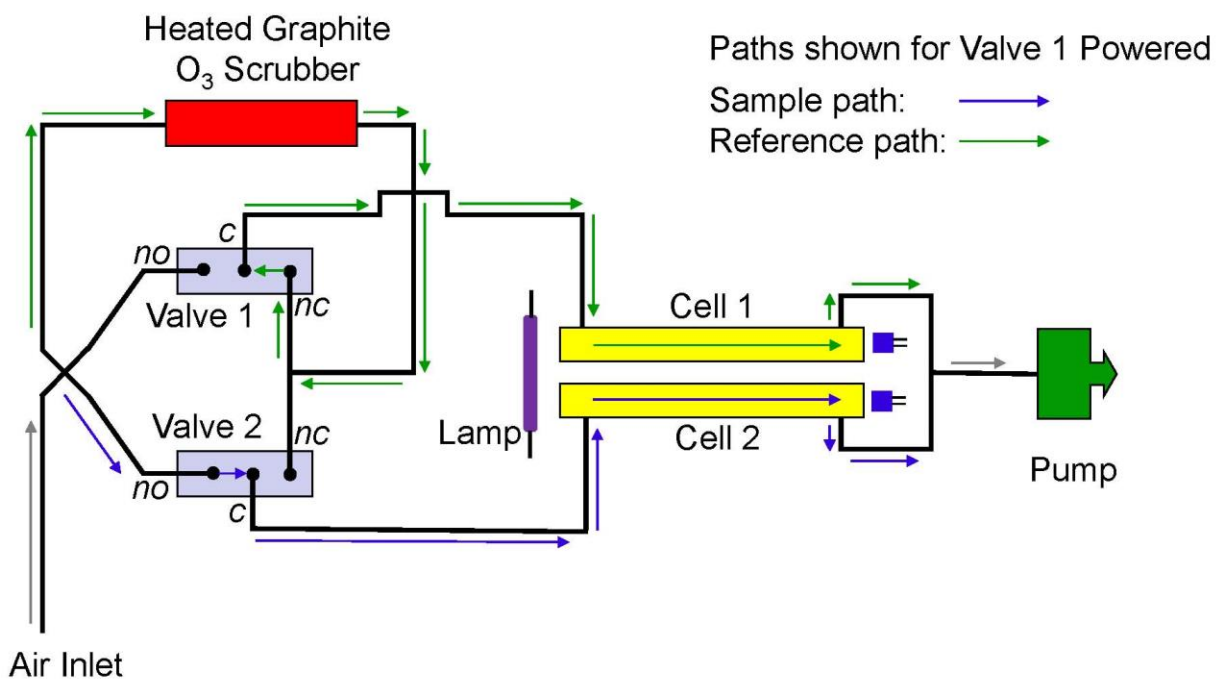

Fig. 1.1. Schematic diagram of the Model 211-G Ozone Monitor.
Figure 1.1 is a schematic diagram of the dual beam ozone monitor. Ozone is measured based on the attenuation of light passing through two separate 30-cm long absorption cells fitted with quartz windows. A single low-pressure mercury lamp is located on one side of the absorption cells, and photodiodes are located on the opposite sides of the absorption cells. The photodiodes have built-in interference filters centered at 254 nm, the principal wavelength of light emitted by the mercury lamp. An air pump draws sample air into the instrument at a flow rate of approximately 2.0 L/min. The flow is split to either pass through or bypass an ozone scrubber (heated graphite tubes; see below). A pair of solenoid valves switch in unison so as to alternately send ozone-scrubbed air and unscrubbed air through the two absorption cells. Thus, the intensity of light passing through ozone-scrubbed air (I_o) is measured in Cell 1 while the intensity of light pass through unscrubbed air (I) is measured in Cell 2. Every 2 seconds, the solenoid valves switch, changing which cell receives ozone-scrubbed air and which cell receives unscrubbed air.
The Model 211-G uses our patented heated graphite scrubber technology (shown schematically in red in Figure 1.1) to remove ozone from the reference gas stream. The scrubber consists of a series of graphite tubes heated to 130°C. The heated graphite scrubber removes up to 500 ppb ozone and greatly reduces potential interferences from water vapor, particulates, VOCs, and mercury vapor compared to conventional metal oxide scrubbers, making the Model 211-G suitable for making accurate ozone measurements even in heavily polluted air. The scrubber has been described in our paper published in *Atmospheric Measurement Techniques* (volume 10, 2253-2269, 2017).